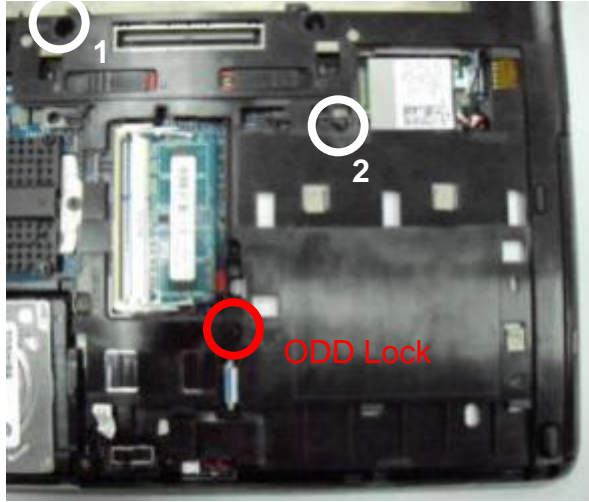

Fig.1
1. Loosen ODD SET (or ODD dummy) screw * 1, disassembly ODD (or ODD Dummy). (Fig.1)
2. Loosen K/B SET screw * 2. (Fig.1)